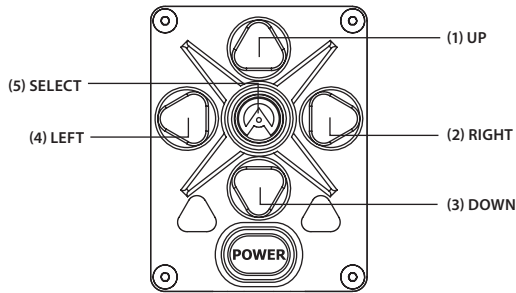

FIGURE 3-9. MAIN MENU NAVIGATION BUTTONS
To display the MAIN MENU, hold down the MENU button (5) on the control panel (Figure 3-9).